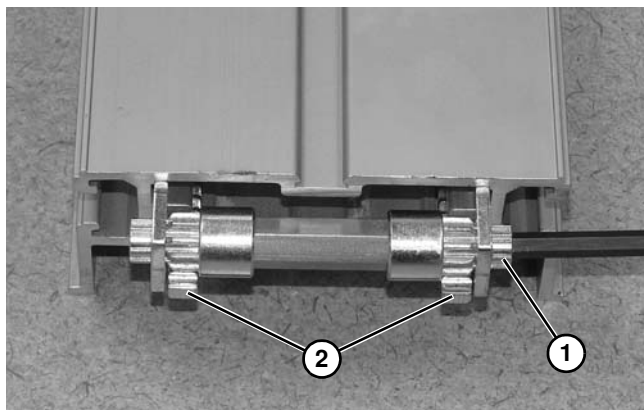

Figure 117
10. Rotate pinion (**Figure 117, item 1**) with hex wrench until gear racks (**Figure 117, item 2**) are fully collapsed.